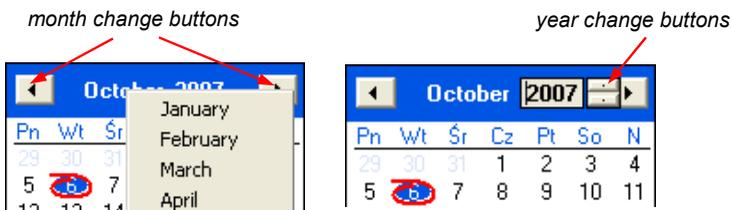

Figure 4.3. Changing months and year
- 2) The date can be change by clicking onto any day in the calendar. Buttons at the top part of the calendar are used to change months (**Figure 4.3**). After clicking on the current year located to the right from month's name an edition window and buttons for changing the year are displayed (**Figure 4.3**).